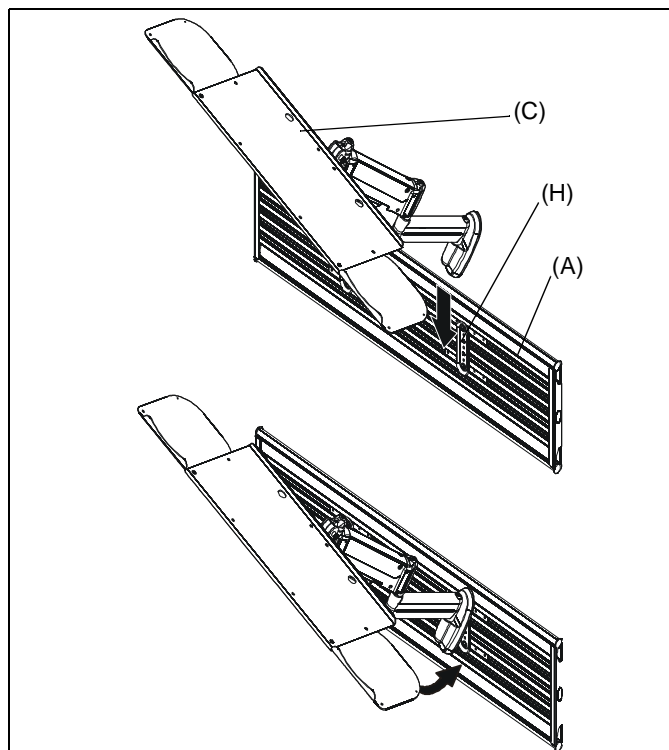

Figure 38
8. Insert top of keyboard tray mount (C) over lip on top of the other wall plate (H). (See Figure 38)
9. Swing keyboard tray mount (C) down flush against wall. (See Figure 38)